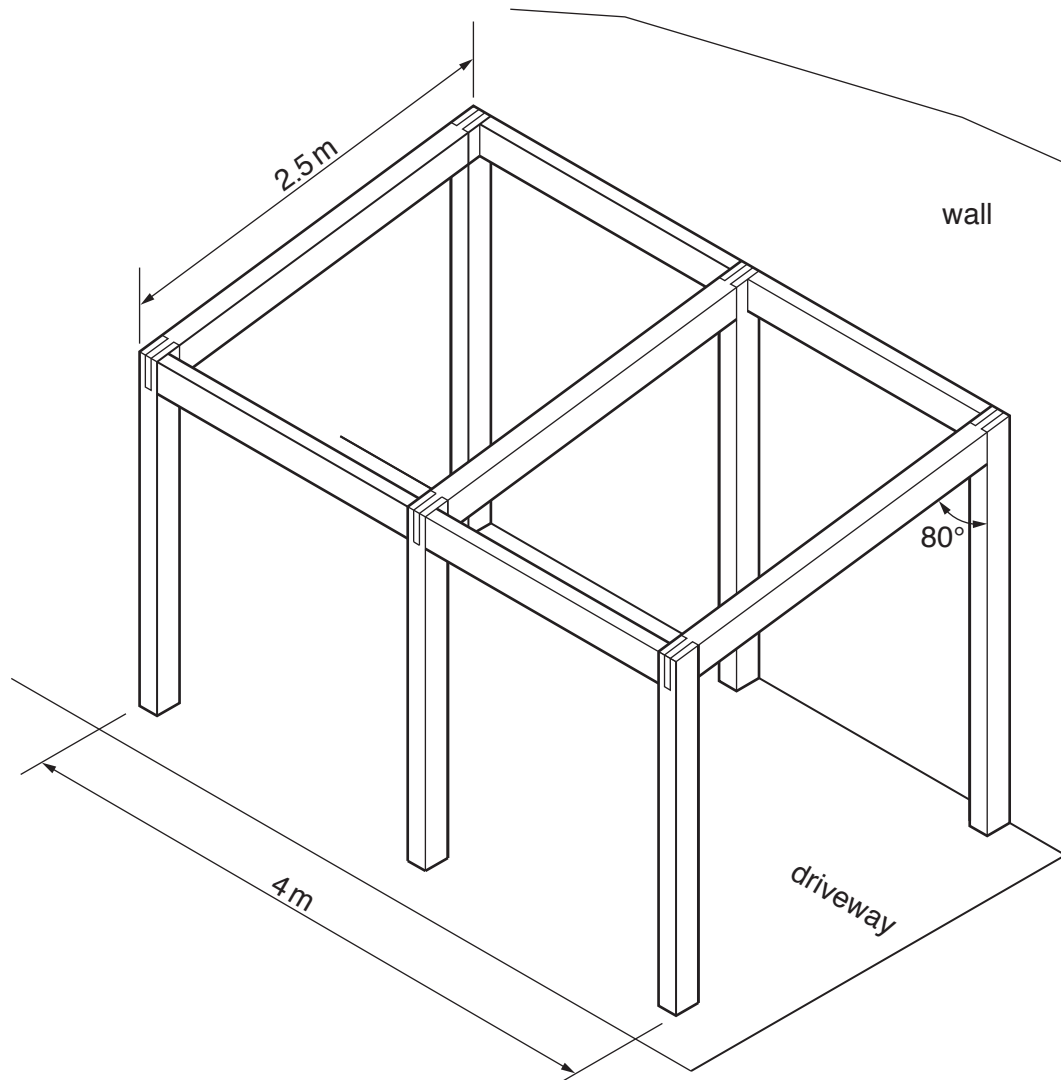

Fig. 6
- (iii) Fig. 6 shows a frame for a carport. The roof is to be covered using six uncut corrugated plastic sheets $2600\text{ mm} \times 800\text{ mm}$.
Draw on Fig. 6 to show **two** of the corrugated plastic sheets correctly positioned on the roof frame.